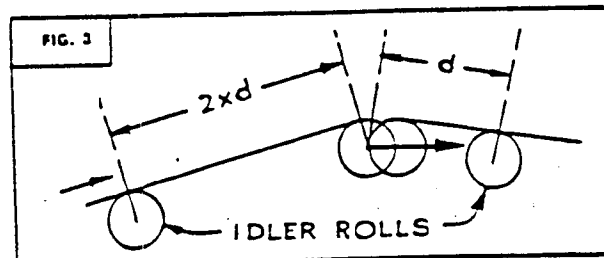

FIG. 3
- b. Make draw between MOUNT HOPE ROLL and preceding roll twice as great as the draw between MOUNT HOPE ROLL and the roll following it (Fig. 3). (Smaller ratios may be used on special applications).
- c. Keep draw from MOUNT HOPE ROLL to the roll FOLLOWING it as short as possible in order to hold expanded width (Fig. 3).